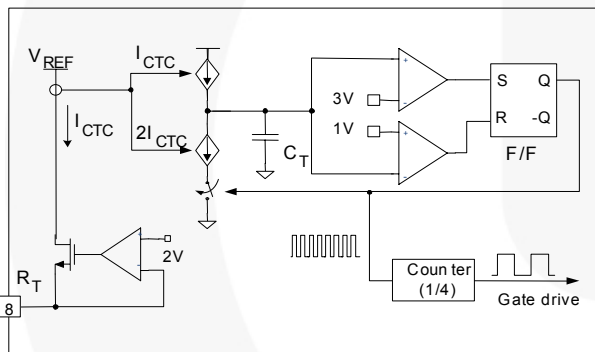

Figure 16. Current Controlled Oscillator
**2. Internal Oscillator:** FAN7621S employs a current-controlled oscillator, as shown in Figure 16. Internally, the voltage of  $R_T$  pin is regulated at 2V and the charging / discharging current for the oscillator capacitor,  $C_T$ , is obtained by copying the current flowing out of  $R_T$  pin ( $I_{CTC}$ ) using a current mirror. Therefore, the switching frequency increases as  $I_{CTC}$  increases.